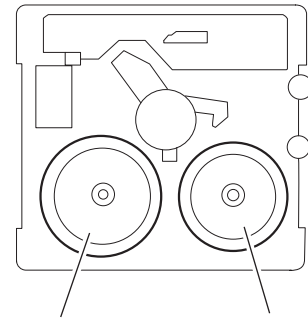

Fig.8
3.4.4 Removing the flywheel (See Fig.8, 9)